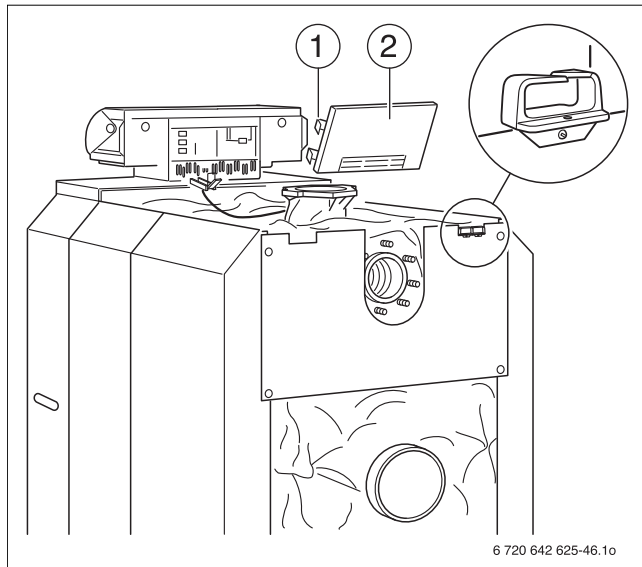

Fig. 52 Mounting the rear wall section
- ▶ Attach cable entry (→ Fig. 52) to the left and right of the boiler rear panel.